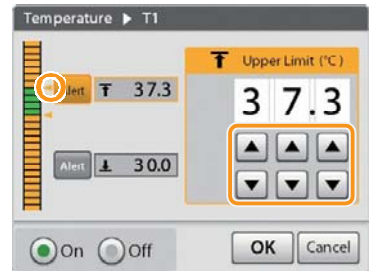

Figure 3-23
5. Tap ▲ or ▼ to input the upper limit value you want to set. (Figure 3-23)